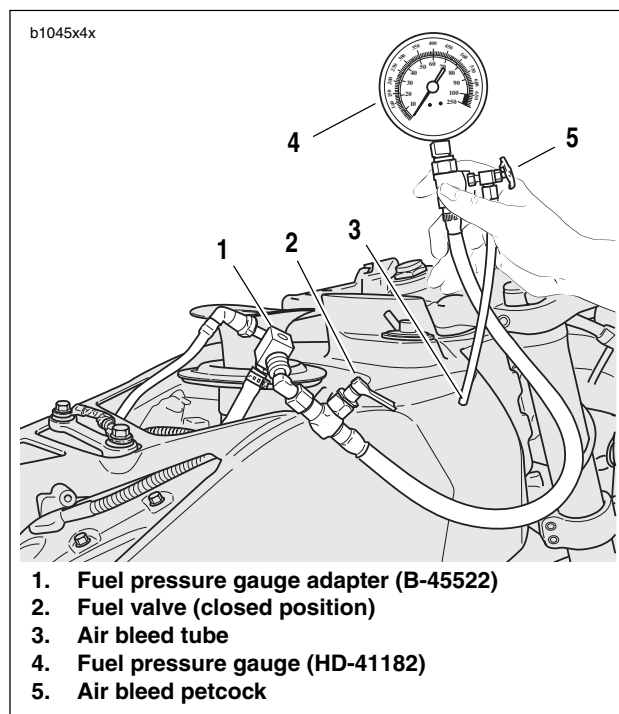

Figure 4-26. Fuel Pressure Gauge (Part No. HD-41182)
See Figure 4-26. Verify that fuel valve (2) and air bleed pet-cock (5) on the gauge are closed.
6. Attach FUEL PRESSURE GAUGE (Part No. HD-41182) (4) to fuel pressure gauge adapter (1).
8. See Figure 4-26. Pressurize the fuel system.
- b. Open fuel valve (2) on fuel pressure gauge to allow fuel to flow down the gauge hose.
- c. Position the air bleed tube (3) into proper container.
- d. Open and close the air bleed petcock (5) to purge the fuel pressure gauge and hose of air. Repeat this step several times until only solid fuel (without bubbles) flows from the air bleed tube.
10. See Figure 4-26. Turn engine off. Detach pressure gauge (4) from adapter (1).
- a. Open the air bleed petcock (5) to relieve fuel system pressure and purge the pressure gauge of gasoline.